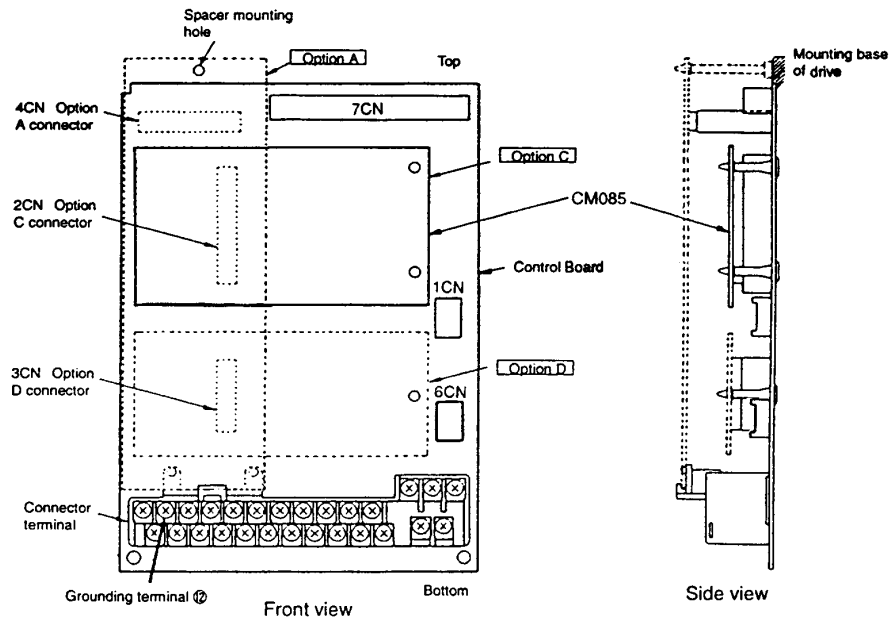

Figure C1. Installation of Analog Speed Reference (AI-14B) in GPD 503
- C4. See Figure C1. Install the option on the Main Control Board, 1PCB, and ensure 2CN is properly connected. Make sure Electrostatic procedure is followed.